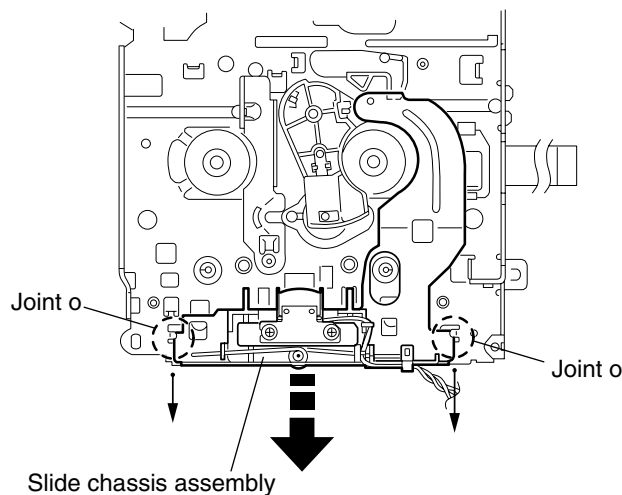

Fig.16
■ Removing the slide chassis assembly (See Fig.16 and 17)